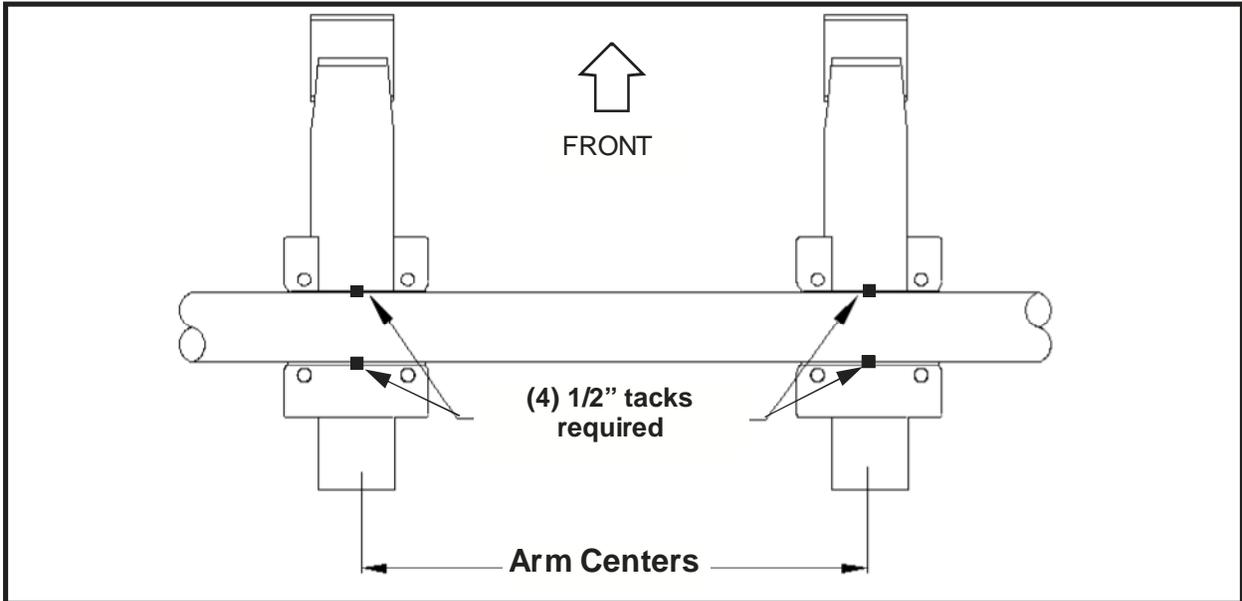

Figure 5
1. Tack arms to axle with (4) 1/2" tacks near the center (2 Front, 2 Rear) of the axle seat connection. (**Figure 5**)